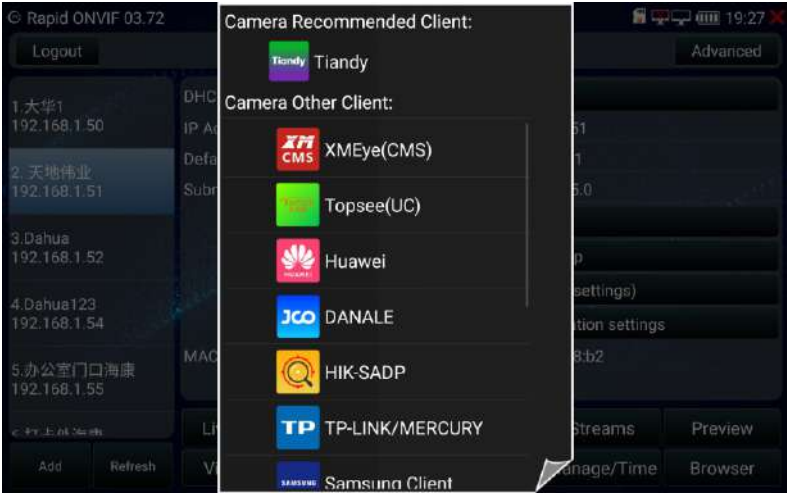

Figure 24
4) For cameras unable to edit IP: in rapid ONVIF App, touch IP Set button to set IP, if it cannot be set, touch ‘More’ button in the middle, it will list out all camera clients and recommend you to use the corresponding client software, touch to enter client and finish setting, as shown in Figure 24